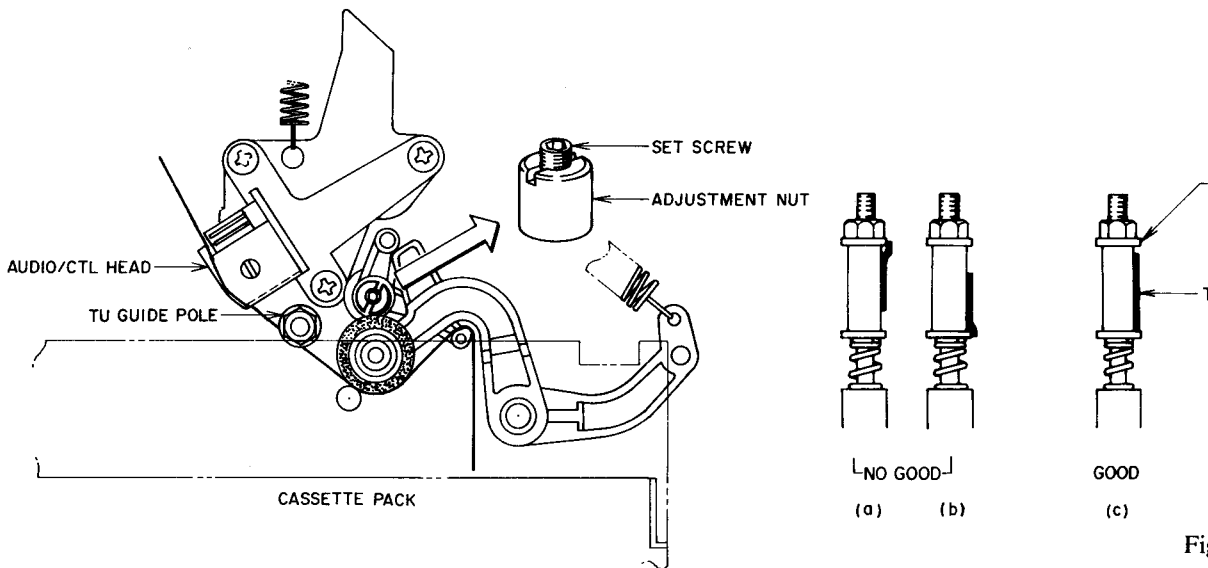

Fig. 7-11
### 7-6. ADJUSTMENT OF QUICK FINDER (REVIEW) RUN (Refer to Fig. 7-11, 7-12)
- 3) Loosen the set screw in Fig. 7-11 so that the adjustment nut can be turned.